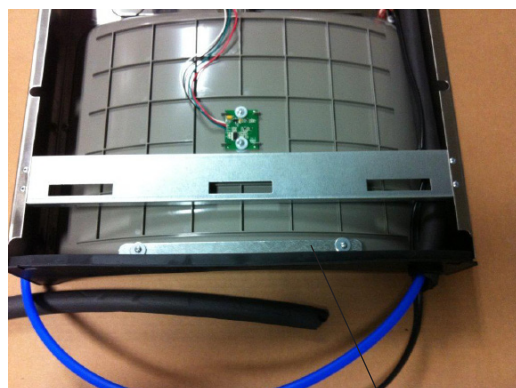

Fig. 7
- 6) **Install gasket on bottom of bottle filler** tower with gasket support bracket, (2) washers, & (2) screws (See Fig 7).